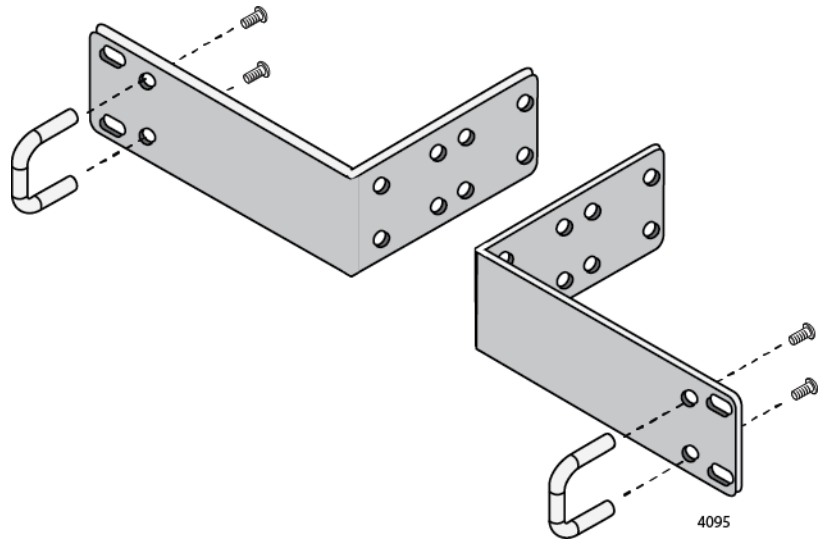

Figure 40. Attaching the Handles to the RKMT-J14 Brackets
1. Attach the two handles to the RKMT-J14 Brackets using the four M3x6mm screws included with the switch. Refer to Figure 40 on page 79.